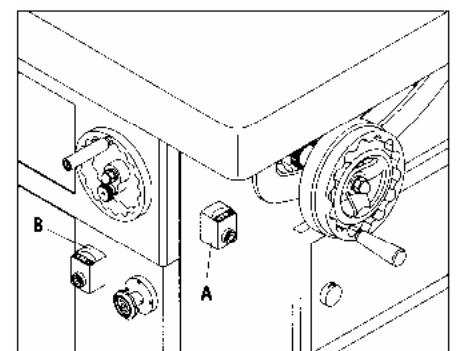

Fig.3.19
Digital read-out (A) Fig. 3.19, for spindle height is available for some specific models.